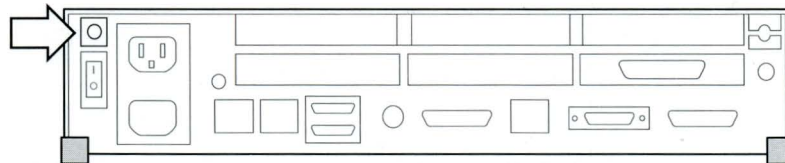

Figure E-2 Plastic Tab Location, SPARCstation 10 Back Panel
4. **Use a Phillips screwdriver to press the plastic tab while you lift the cover from the back panel with your other hand (see Figures E-2 and E-3).**